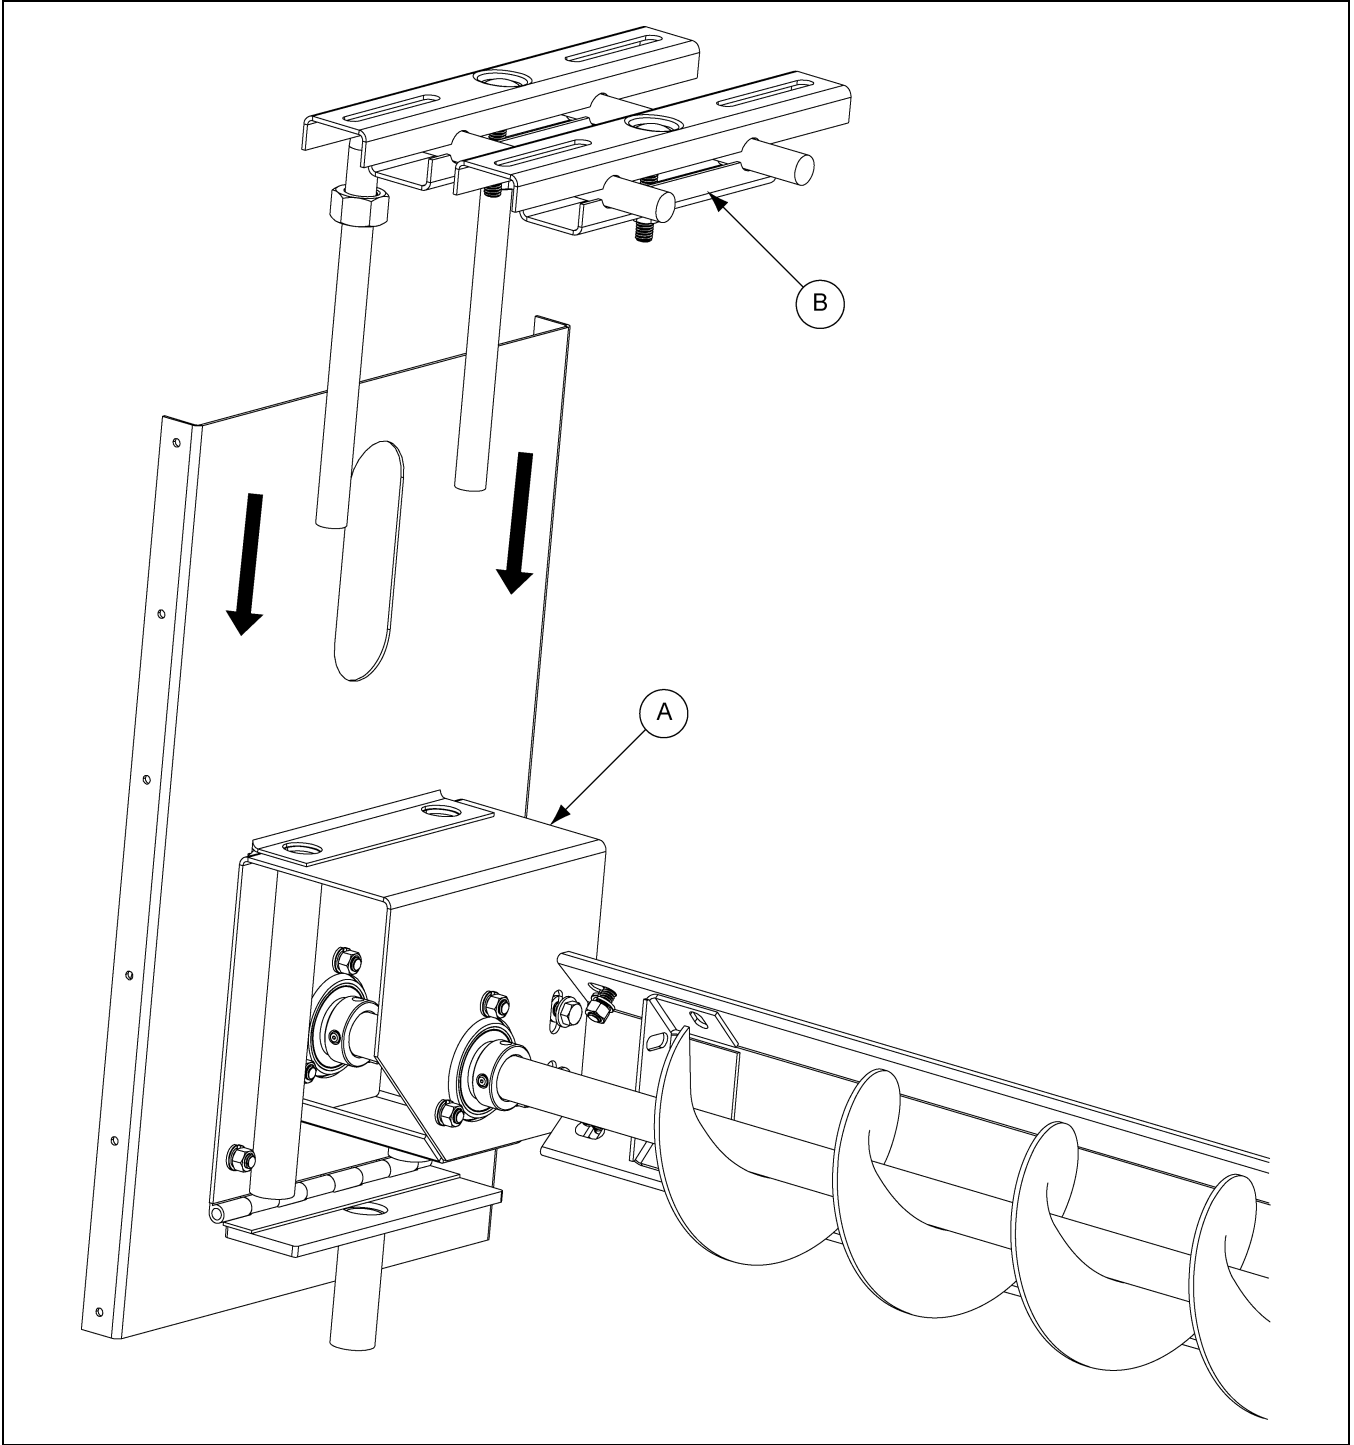

Figure 4AN
Step 16: Attach drive mount. (See Figure 4AN.)